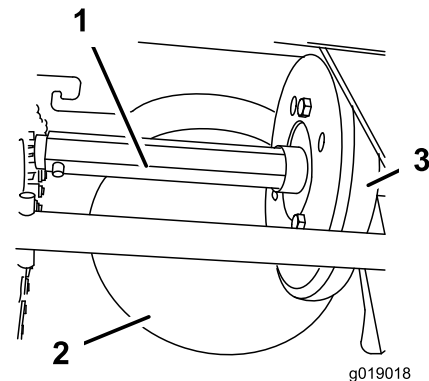

Figure 33
Lightly lubricate the hex shaft yearly with automotive engine oil (Figure 33).
**Important:** Do not get oil on the rubber wheel or the steel friction pulley because the traction drive will slip (Figure 33).